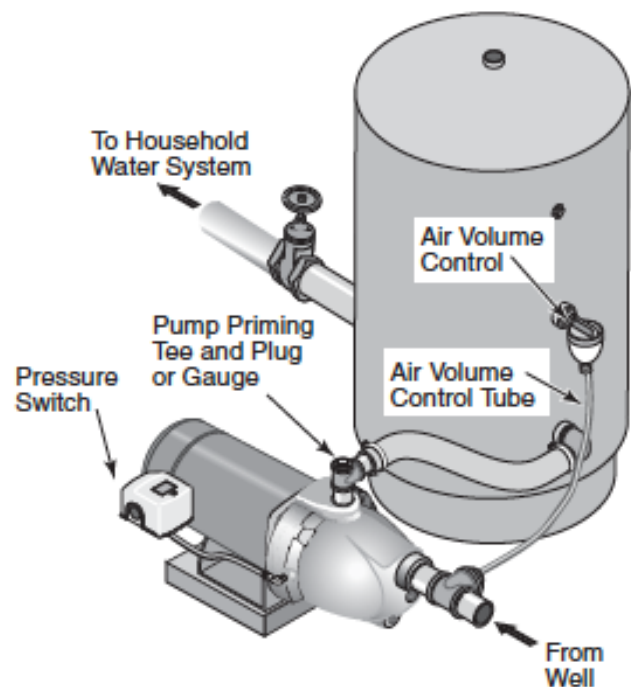

Figure 5: Standard Tank Connections
1. Install one tee in the pump discharge port (Figure 5).